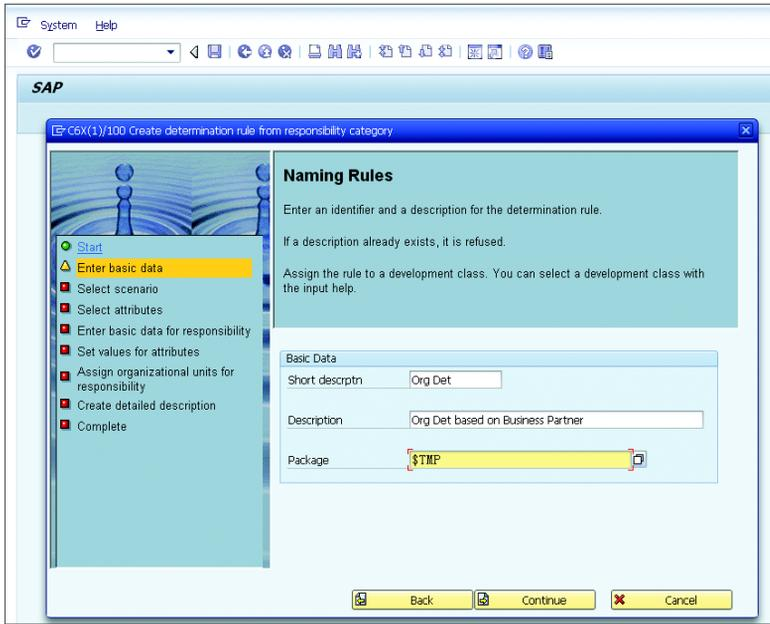

Figure 2.9 Organization Determination from Responsibility Category – Basic Data
2. Enter the SHORT DESCRIPTION, DESCRIPTION, and PACKAGE as shown in Figure 2.9. Click CONTINUE.